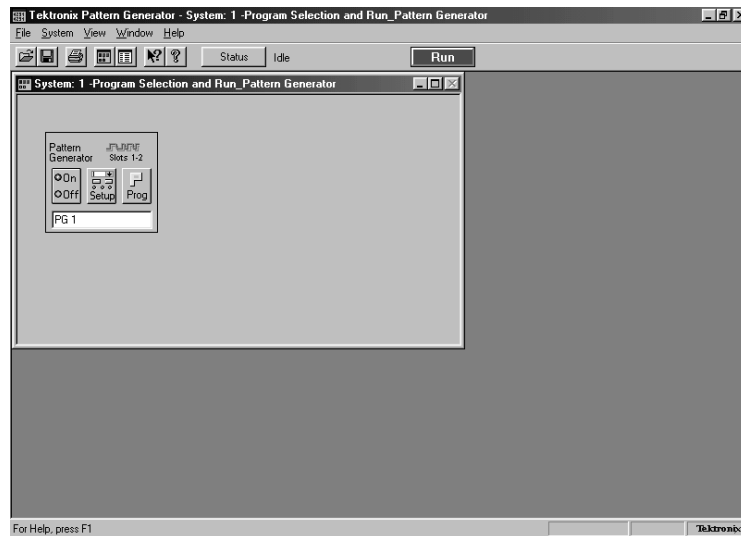

Figure 5–5: Restored system for the pattern generator exercises
2. Load the 1–Program Selection and Run\_Pattern Generator.tpg system setup from the C:\Program Files\TLA 700\Quick Start\Pattern Generator folder. Your display should look similar to Figure 5–5.
3. Load the 1–Program Selection and Run\_Logic Analyzer.tla system setup from the C:\Program Files\TLA 700\Quick Start\Pattern Generator folder. Your display should look similar to Figure 5–6 on page 5–9.